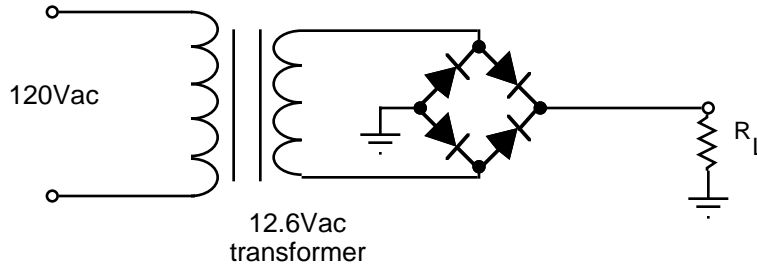

Fig 4.2
a) Construct the full-wave bridge rectifier circuit of Fig. 4.2 using four 1N4001 rectifier diodes. Explain the output wave form. Remove one of the diodes and look at the symptoms.